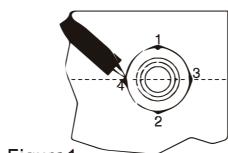
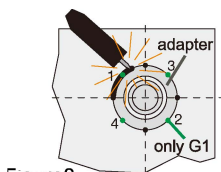

Figure1
Figure2
- ① Bore a hole in the pipe or housing wall with the outside diameter of the adapter(max. tolerance: 0.2 mm);
- ② Fix the adapter at four points with sufficient holding force(see figure 1), apply the fixing points at equal distance opposite each other! For G1", should fix the adapter at eight points (see figure 2)
- ③ Screw on welding adapters.
- ④ Apply the welding seams between the fixing points opposite each other (see figure 2)